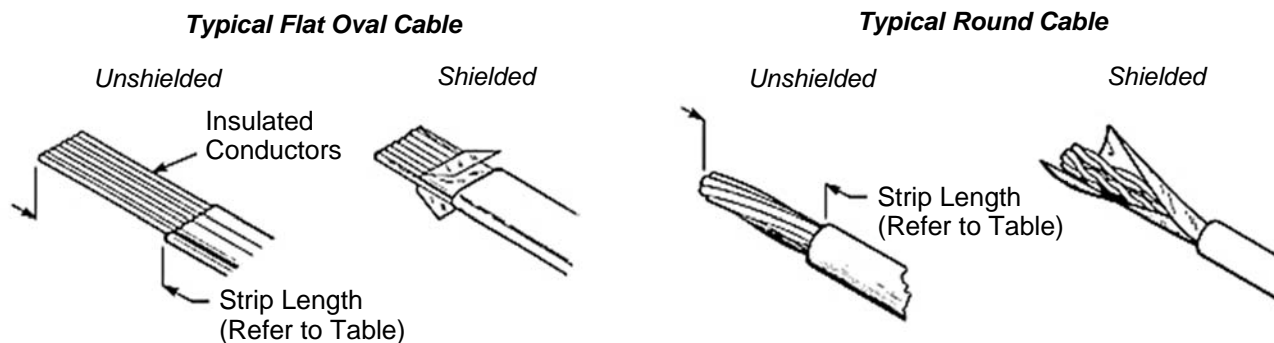

Figure 2
- Restructured paragraph 2-3 and associated sub-sections, modified and/or removed info., revised figure 2 and added new table 1
Proper strip length as shown in Figure 2 is necessary to properly insert the cable into the modular plugs. The strip length for the cable and specific cable and modular plug combinations are shown in Table 1.